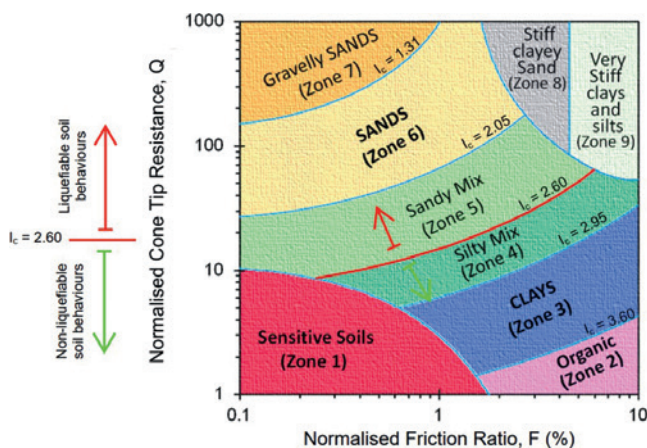

FIGURE 1: Zones for Soil Behavioural Type from CPT using the Normalized Cone Resistance and Friction Ratio (Modified from Robertson 2009)
The terms Q and F are used in the soil behaviour type chart as shown below in Figure 1 to classify different soil types.
In typical liquefaction analyses based on CPT data, it is standard practice to classify soils according to soil behaviour type index ' I_c ' as shown in Figure 1. If the calculated I_c value is within the range of 2.05 to 2.60, it is classified as "Sandy Mix" soils and falls into Zone 5.
In simplified liquefaction analyses, it is also standard practice to use an I_c cut-off value of 2.6 as the dividing line between "clayey" and "sandy" material types. This means soils with $I_c \geq 2.6$ are excluded from liquefaction analyses as these soils are considered too clay-rich (plastic) to liquefy. While soils with $I_c < 2.6$ are included in liquefaction analyses as these soils are considered sand-like (non-plastic) or potentially liquefiable. See Figure 1 for further details.
- relatively clean silica or normal hard sand (Zone 6 in above Figure 1),
Changing the standard-practice-recommended I_c cut off value of 2.6 to 2.05 in simplified liquefaction analysis methods might be daunting to some of us and may seem unconservative in Sandy mix soils (Zone 5, refer Figure 1), that are still susceptible to liquefaction and settlement. But the error is minor when compared to the error in the other direction when using an I_c cut off value of 2.6.
In summary, simplified liquefaction analysis methods are applicable for soils with a behaviour type of clean sand that fall into 'Zone 6' in Figure 1 and, therefore, the I_c cut-off value of 2.05 shall be considered in simplified liquefaction analysis.
- First pass liquefaction analysis shall be undertaken using an I_c cut-off value = 2.6, Fine Content (FC) correction factor, $C_{FC} = 0$ for estimating FC, Probability of Liquefaction, $PL = 15\%$ and ignoring the aging factor.
- To further validate that the sandy mix soils in Zone 5 (Figure 1) are non-liquefiable, undertake laboratory Plasticity Index (PI) tests to determine that the soil behaviour is clay-like with $PI > 12$.